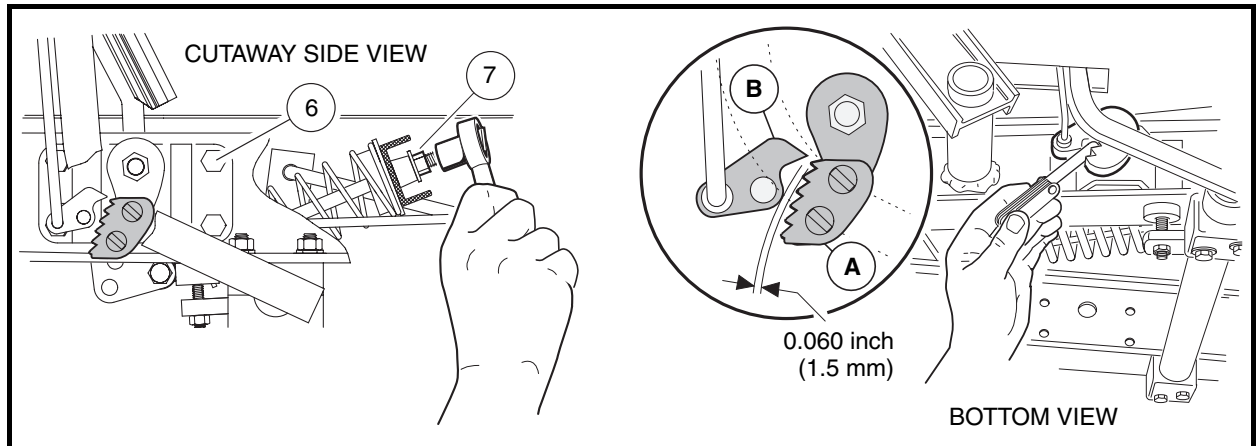

Figure 5-24 Park Brake Ratchet/Pawl Gap Adjustment
- 4.2. Adjust retaining nut (7) on spring support rod until there is a 0.060 inch (1.5 mm) gap between the pawl and the tips of the ratchet teeth. Use a feeler gauge to verify the gap (**Figure 5-24, Page 5-18**). The gap should be consistent through range of pawl movement. If the gap is not consistent, loosen the four bolts (6) securing the accelerator pivot rod supports and adjust the supports. If the gap becomes smaller as the park brake pedal is pressed, move the pivot rod supports slightly rearward until the gap is consistent. If the gap becomes larger as the park brake pedal is pressed, move the pivot rod supports slightly forward until gap is consistent.